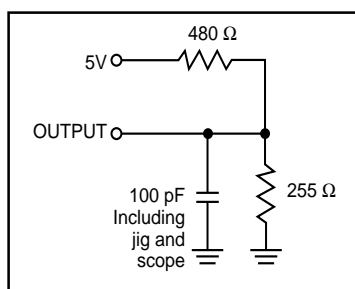

Figure 1.
- Test conditions assume signal transition times of 5 ns or less, timing reference levels of 1.5V, input pulse levels of 0 to 3.0V and output loading specified in Figure 1.
Output Load	See Figures 1 and 2
1. Test conditions assume signal transition times of 5 ns or less, timing reference levels of 1.5V, input pulse levels of 0 to 3.0V and output loading specified in Figure 1.